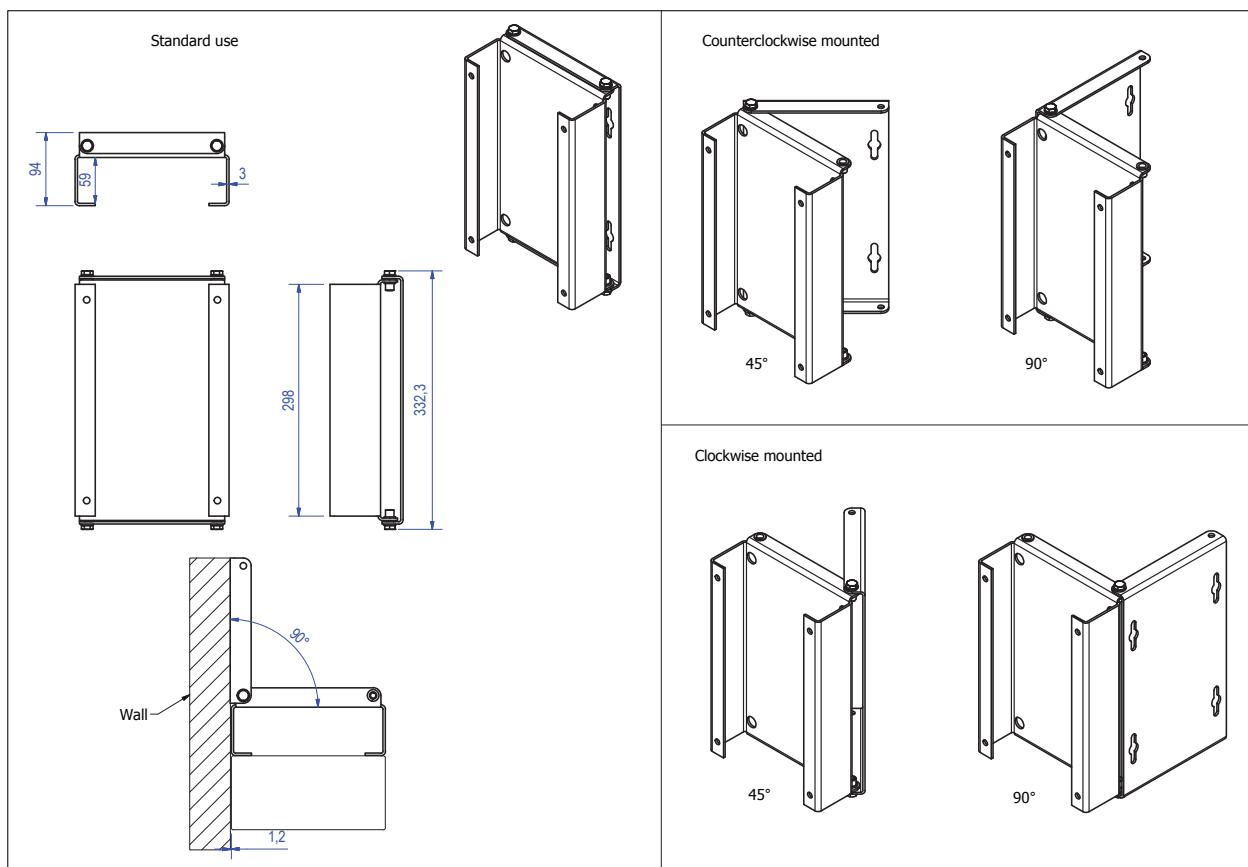

Fig.16 Mounting hinge bracket dimensions.
1. Using the drilling template in the Appendix of this manual, mark the wall for the wall plugs. Refer also to the Mechanical Details drawing in the datasheet supplied with the loudspeaker. Check the dimensions given from the reference datum to each pair of mounting holes, and allow for the offset of the acoustic centre from the reference to ensure that the acoustic centre will be at the height defined in the acoustic design specification. Reference to Fig.16 may also be helpful. Drill the holes (Ø 10 mm).